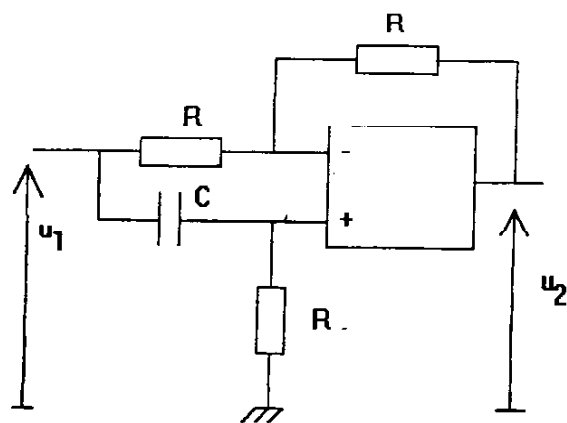

FIGURE 2.
I. ETUDE DU DEPHASEUR, (figure 2/ page 7)